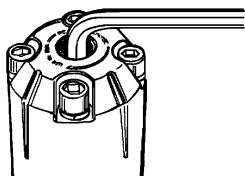

FIGURE 2
- To **INCREASE** outlet pressure, turn the (6) adjusting screw **CLOCKWISE** (see figure 2).
- To **DECREASE** outlet pressure, turn the (6) adjusting screw **COUNTERCLOCKWISE** (see figure 2).